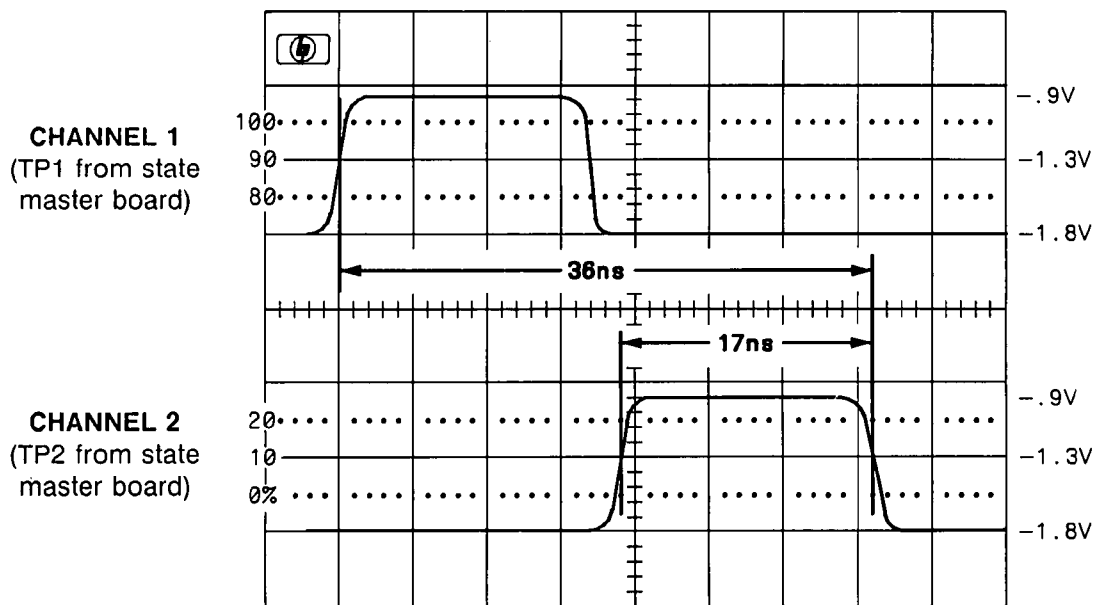

Figure 5-5. Strobe Signals.
- f. Connect Channel 1 of the oscilloscope to TP1 on the State Master board. Connect Channel 2 to TP2. Trigger the oscilloscope on the Channel 1 signal. The period of the signals is $5.5\mu\text{s}$. By setting the oscilloscope controls to 0.5 V/div. , 5.0 ns/div. , and displaying both channels you should get approximately the display in figure 5-5. The adjustments to be made are shown on the figure. The adjustment accuracy is $\pm 500\text{ ps}$.